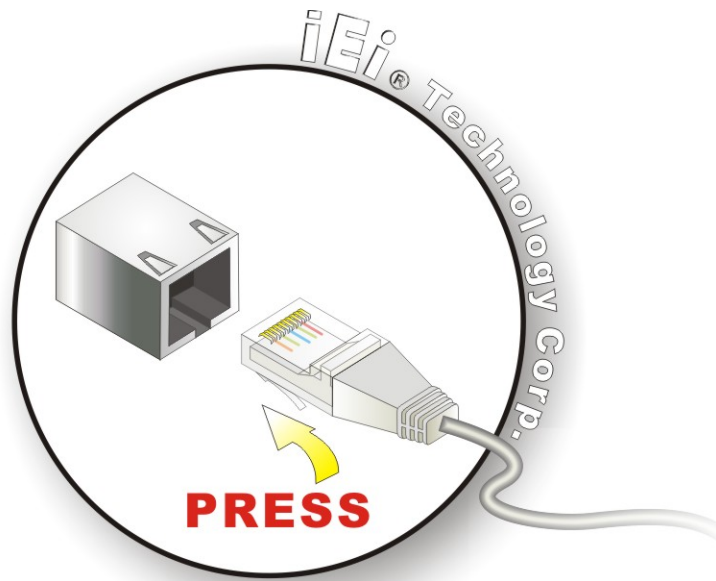

Figure 4-23: LAN Connection
Step 2: **Align the connectors.** Align the RJ-45 connector on the LAN cable with one of the RJ-45 connectors on the NANO-945GSE. See **Figure 4-23**.